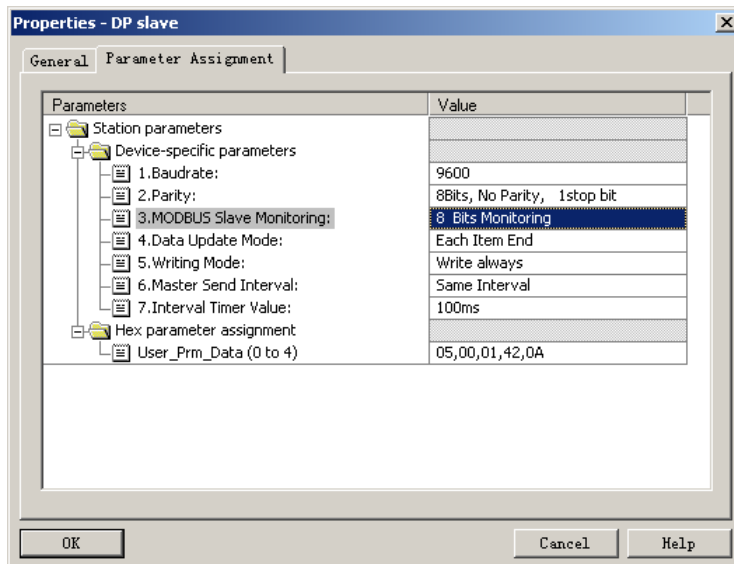

Figure 34 Configure User Parameters of “3.MODBUS Slave Monitoring” Device
- a) **Configure user parameters of “3.MODBUS Slave Monitoring” device, shown Figure 34:**
As shown in Figure 34, to use xxx bits Modbus slave monitoring module, corresponding Modbus slave monitoring parameters shall be configured in device user parameters. Here to configure "8 Bits Monitoring", corresponding "8Bits MODBUS Slaves Status" module shall be used.